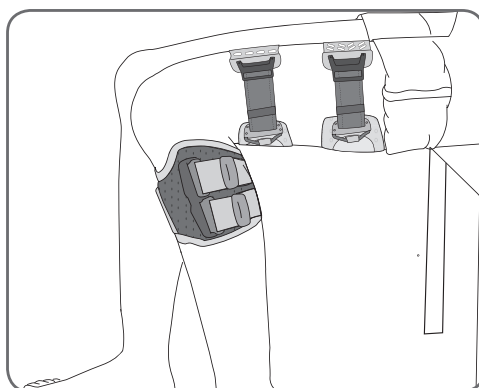

Figure 8-43: Test stimulation with the patient seated and the legs dangling.
1. Have the patient sit with the lower leg dangling unobstructed. See Figure 8-43.